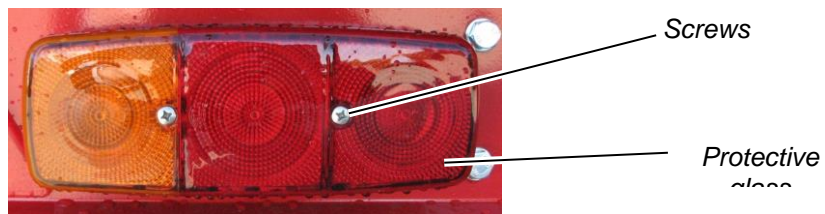

Figure 66: Three-compartment light
- ⇒ Unscrew the two screws from the three-compartment light (see Figure 66).
- ⇒ Remove the protective glass (see Figure 66).